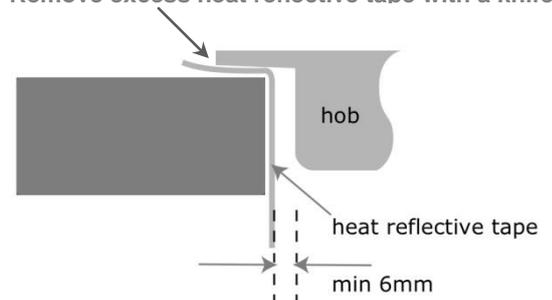

Fig. 10 Application of heat reflective tape
- Apply heat reflection tape around the entire cut out (Fig. 10), ensuring that it protrudes beyond the hob flange and is in contact with worksurface and hangs straight down, heat reflection tape is required for all hot cut outs. Apply a second piece of reflective tape to all corners to ensure adequate